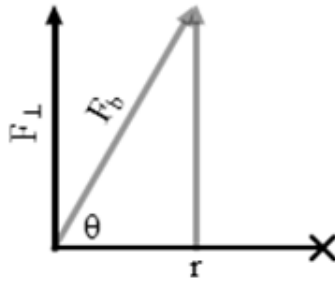

Figure 14
- 11 For Trial 2, adjust the pulley so that  $\theta$  is  $60^\circ$  as shown in Figure 14 and listed in Table 3. Clearly the beam is no longer in balance. Add helium to the balloon until equilibrium is again achieved. It won't take much. Figure 14 should show why. Record the new  $F_b$  value.